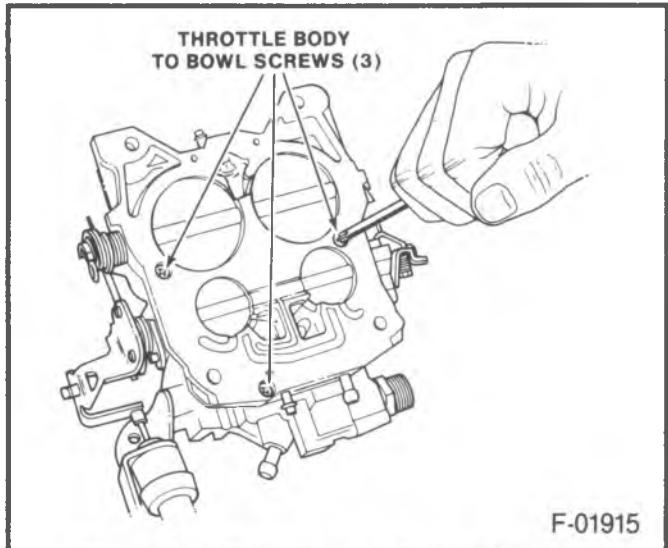

Figure 32 -- Throttle Body Screw Location
-  **Remove or Disconnect (Figure 32)**
1. Float bowl to throttle body screw assemblies (405).
2. Throttle body assembly (400), and float bowl to throttle body gasket (401).
Install or Connect (Figure 32)